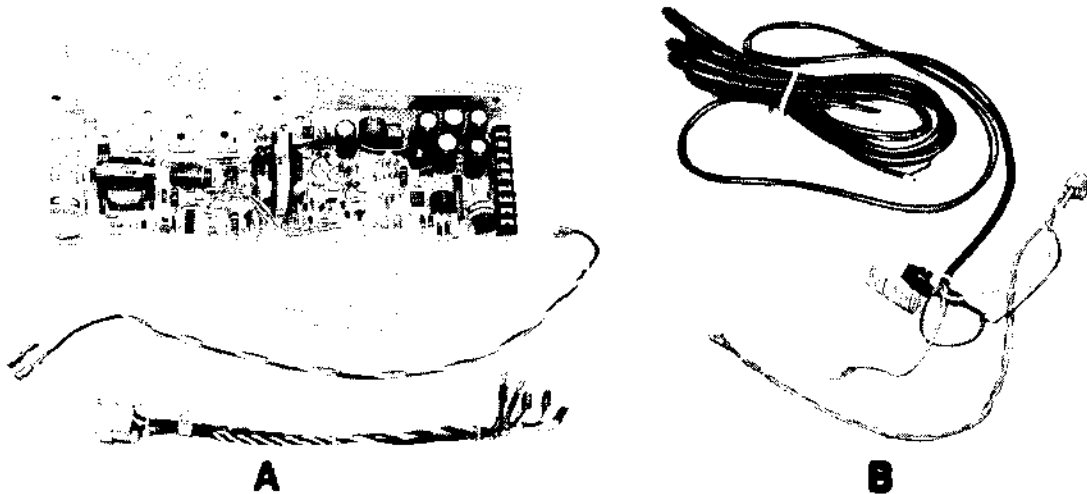

Figure 5-58 INTERNAL POWER SUPPLY #26021-XX INSTALLATION PARTS
1. Assemble and identify the various parts needed for installation of this option, as shown in Figure 5-58.